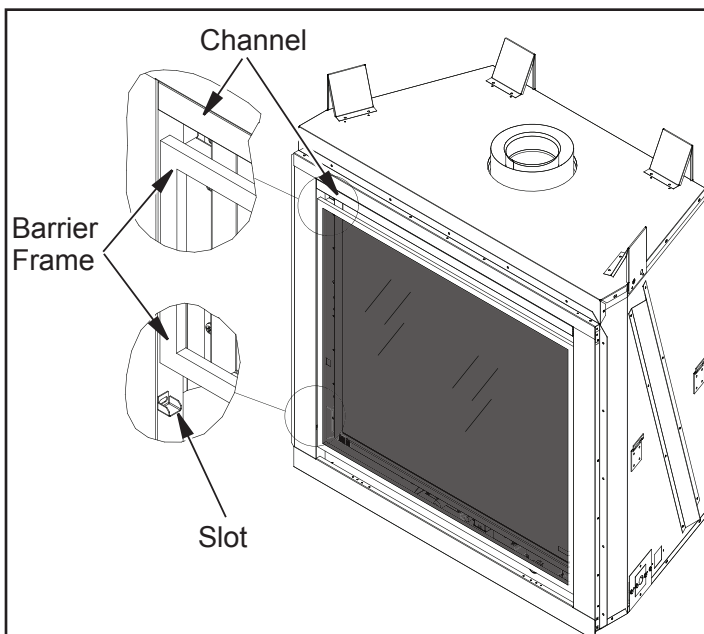

Figure 1 - Removing and Replacing Barrier
1. Remove barrier by Holding the barrier in front of the glass door and slide it up into the channel underneath the upper front face and out of the slots on the bottom front face (see Figure 1).